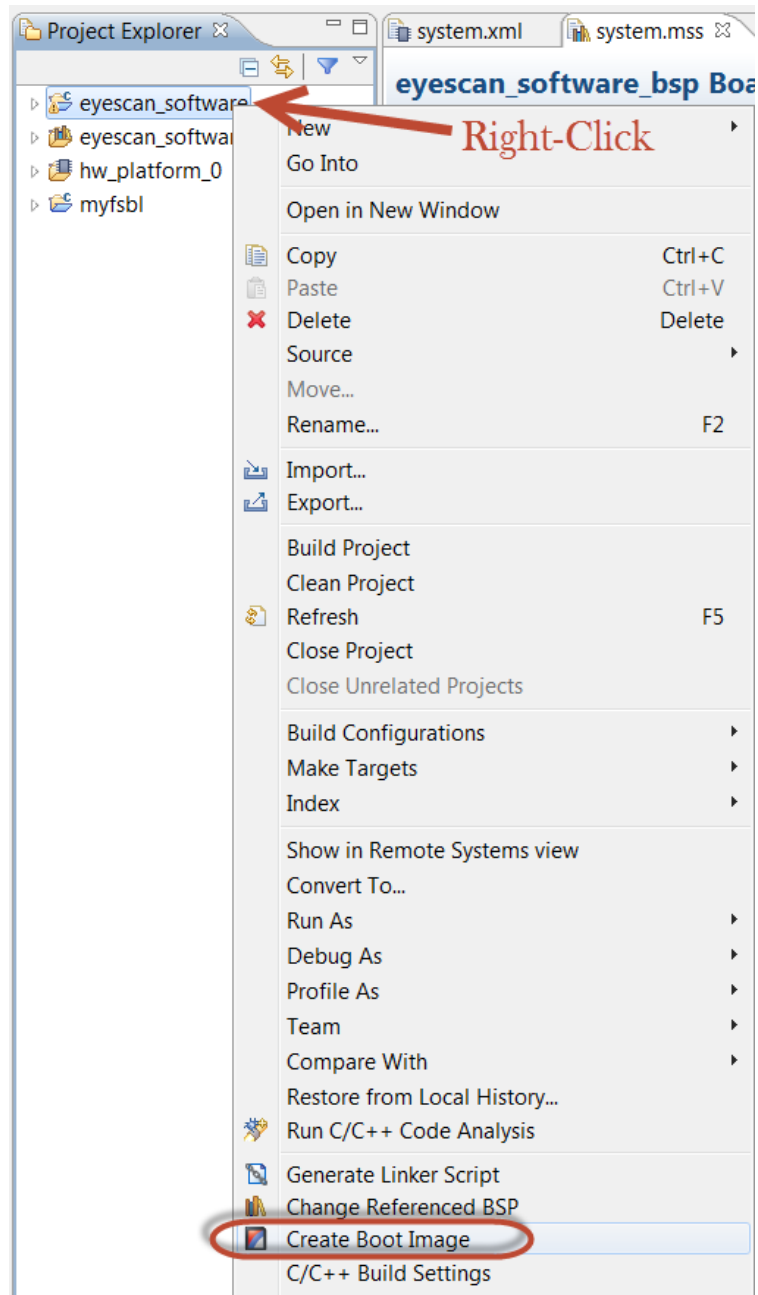

Figure 25: Creating a Zynq-7000 Boot Image
18. Next, create the image by right-clicking the `eye_scan_software` project and select **Create Boot Image** as shown in Figure 25.